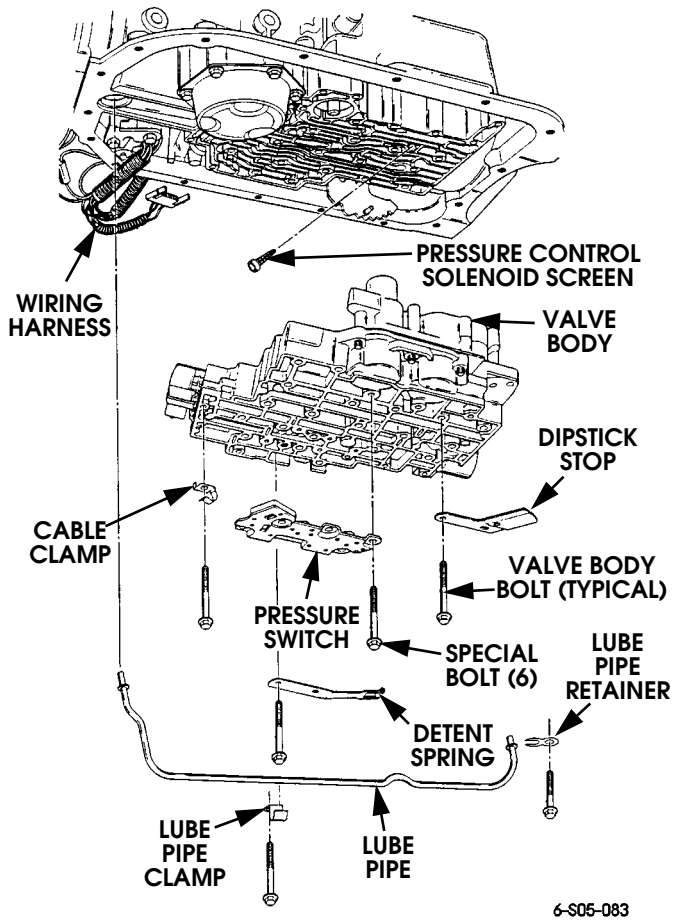

Figure 5-33: Valve Body Removal/Installation
2. Remove bolts attaching lube pipe clamp and retainer. Then carefully remove lube pipe (Figure 5-33).
4. Remove special bolts attaching pressure switch to valve body and remove switch. Note special bolts separate and note position for installation reference (Figure 5-33).
6. Install lube pipe, retainer, and pipe clamp (Figure 5-33).